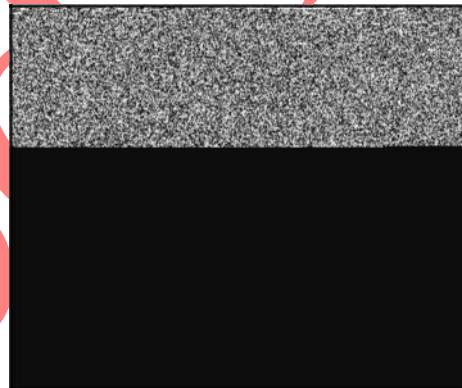

Figure 47
1. Install new welch plug (A, Figure 47) with pin punch (B) of slightly smaller diameter than the plug. Press against the plug until it is flat in the carburetor opening. Do not